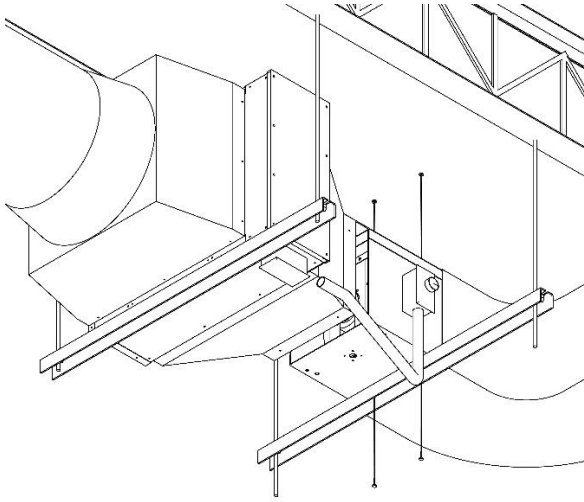

Figure 18
5.) Remove the remaining screws holding motor housing to duct. See Figure 18.
- 16.) Raise fan motor housing into place and attach one side of the housing to the duct. Attach with screws. See Figure 18 and 19.